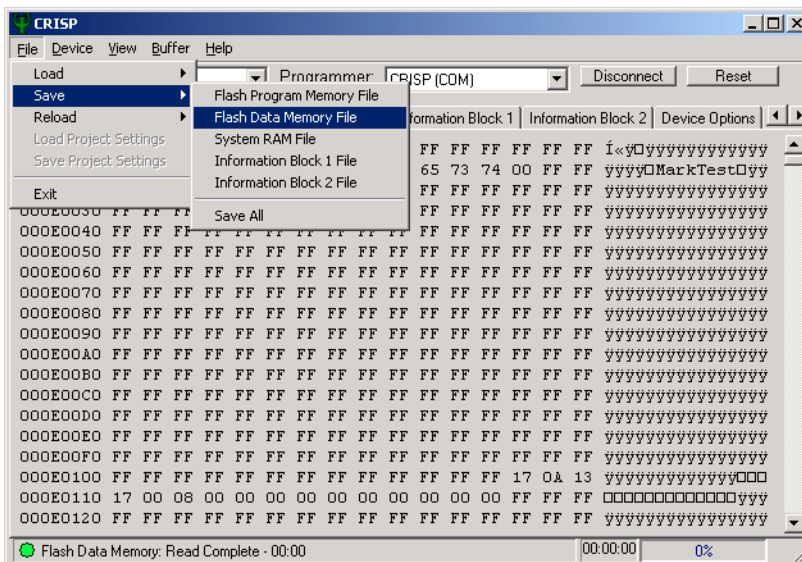

Figure 6-16. Selecting the Save Command
4. **Initiate Saving Buffer to Disk File.** The CRISP buffer can be saved to a disk file by selecting the File -> Save -> Flash Data Memory File command, as shown in Figure 6-16.